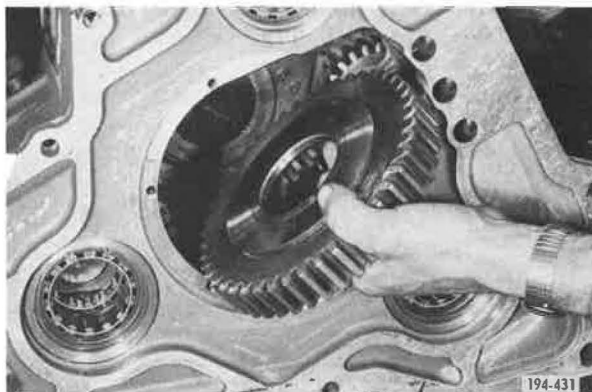

Figure 5-280. Removing Gear
12. (TRXL107 and TRXL107A only) Remove Lo-range gear through front opening of rear case. See Figure 5-280.